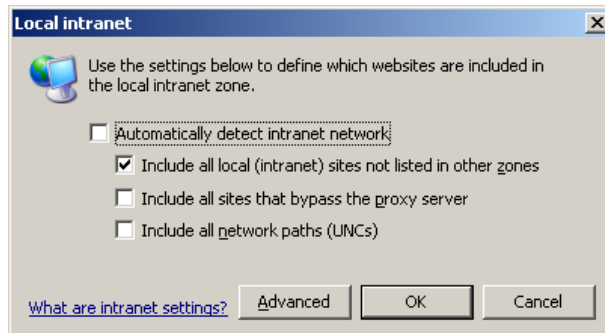

Figure 17. Local Intranet Dialog Box
12. Click **Sites** to open the Local Intranet dialog box (Figure 17).
8. Click **Sites** to open the Local Intranet dialog box (Figure 17).